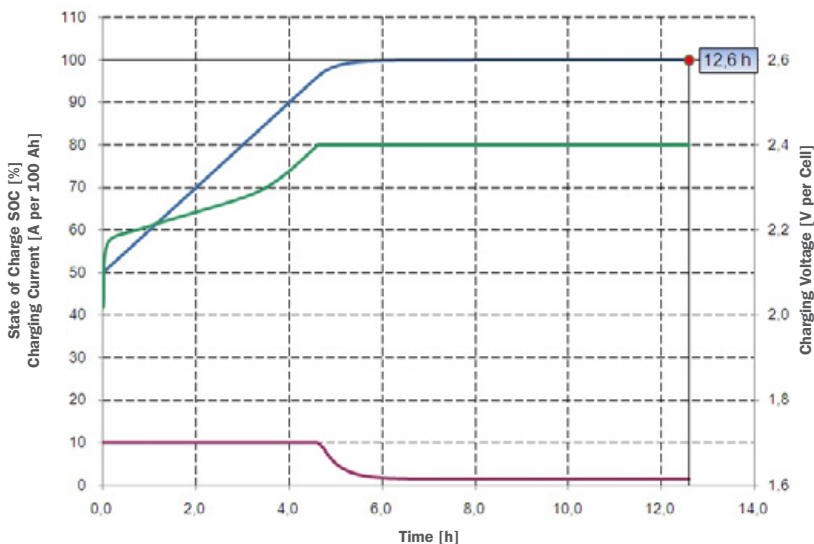
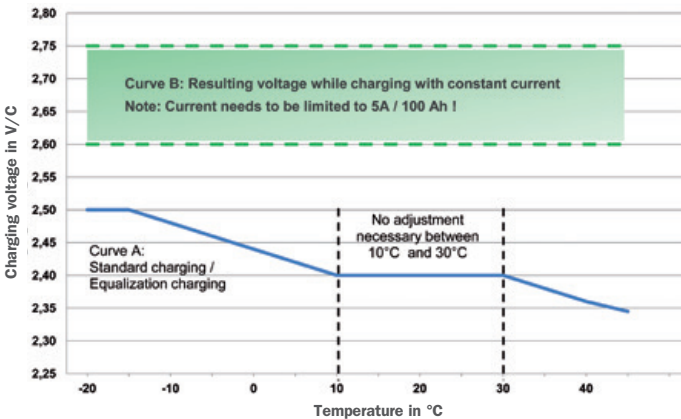

Fig. 7-1: Charging characteristic of OPzS solar.power cell at 50% DoD
Fig. 7-2: Charging voltage as a function of temperature in solar cycling operation
The chart below (refer to *figure 7-1*) demonstrates the OPzS solar.power recharge characteristic (IU-characteristic) after discharge with 50% DoD (Depth of Discharge).
Charging procedure shall be compliant to IU- or IU_g-characteristic (refer to example *fig. 7-1*). Recommended charging voltages for cyclical applications² are depicted in *fig. 7-2*.
Used for regular recharge after every battery discharge. The charging procedure shall comply to IU-characteristic with 2.4 V/cell (refer to curve A in fig. 7-2). Note: Up to 2.4 V/C the charging current is theoretically not limited. However the recommended charging current is 5 A to 20 A³⁾/100 Ah nominal battery capacity (C_{10}).
Charge with IU-characteristic as described above. Keep the charging current at 5 A/100 Ah nominal battery capacity (C_{10}) as soon as the current has dropped to this value during constant U-phase. During Ia phase the charging voltage ranges between 2.6 to 2.75 V/C (refer to curve B in fig. 7-2). Ia phase should last either 2 or 4 hours (refer also to chapter 7.5 Charging procedure for cyclic applications).
If the battery is fully charged the charging voltage needs to be adjusted to normal float charge voltage for standby batteries as given in the HOPPECKE operating instructions (2.23 V/cell at temperature between 10 °C and 30 °C; refer to fig. 7-1).
- Max. 2.4 V/Cell up to 72 hours (refer to curve A in fig. 7-2). Note: Up to 2.4 V/C the charging current is theoretically not limited. However a restriction of max. charging current to 20 A/100 Ah nominal battery capacity (C_{10}) is reasonable. In case of charging voltages above 2.4 V/C the charging current needs to be restricted to 5 A/100 Ah battery capacity (C_{10}). Resulting voltage range is 2.6 to 2.75 V/C (refer to curve B in fig. 7-2).
Temperature dependent voltage adjustment as shown in fig. 7-2: